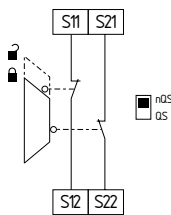

Fig. 11
**Dual-channel guard door monitoring circuit with interlocking device to ISO 14119 (see Fig. 11)**